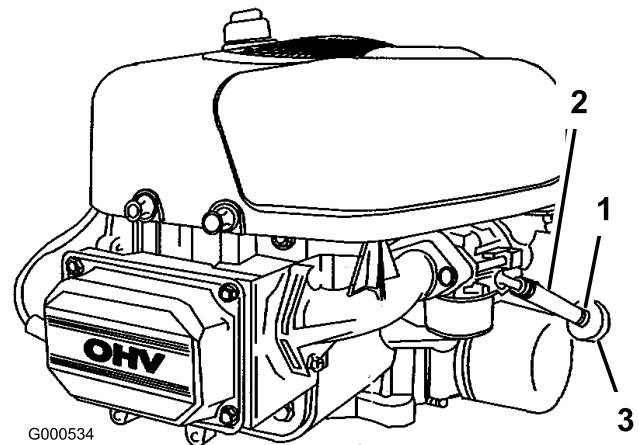

Figure 31
4. Loosen the hose clamp at the fuel filter and slide it up the fuel line away from the fuel filter (Figure 31).
5. Pull the fuel line off of the fuel filter (Figure 31).
7. Install the fuel line onto the fuel filter. Slide the hose clamp close to the fuel filter to secure the fuel line (Figure 31).
4. Squeeze the ends of the hose clamps together and slide them away from the filter (Figure 31).
6. Install a new filter with the flow direction arrow coming from the fuel tank and pointing to the engine and move the hose clamps close to the filter (Figure 31).